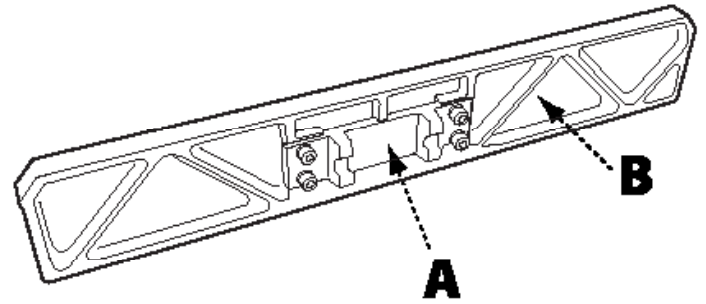

FIGURE 2
2. Referring to Figure 2, slide the dovetail clamp (C) onto the fence support (D) ensuring the tops of both bottom pins in the clamp are flush with the bottom surface of the fence support bracket. Loosely secure the dovetail clamp to the fence support with the indexing lock handle (E).